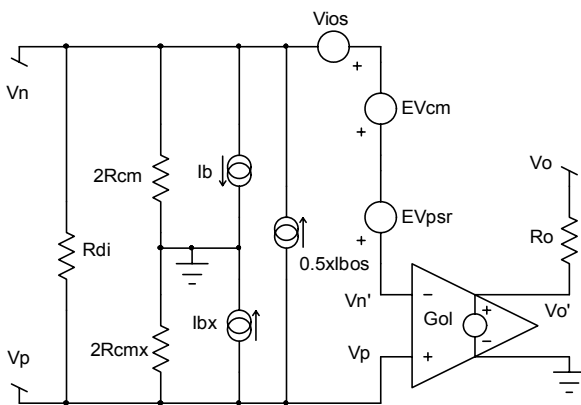

Figure 1
Figure 1 illustrates an Op Amp model used to identify those error parameters specified on data sheets. This model provides a first order approximation (FOA) of how these error parameters may affect application topologies. The "x" on parameters designates assumed equal values.
Definitions: Reference Figure 1
1. **Rdi** is the differential input resistance between positive and negative input terminals. It is typically large enough to neglect in most practical situations; however, its value should always be examined. Data sheets specify input resistance as the resistance seen at one input with the other grounded. This data sheet parameter is Rdi in parallel with 2Rcm in Figure 1 and is essentially Rdi.
Current sources in Figure 1 support these equations.
5. **Vios** (input offset voltage) is an internal IC device voltage error (referenced to the input) that relates output voltage for zero input. IC Op Amps have internal circuits that depend on matched devices. Perfect matching can not be achieved; therefore, a mismatch voltage error term exists as Vios in Figure 1. Note that an applied voltage equal to Vios between Vn, Vp such that the voltage between Vn', Vp is zero, forces the output to zero, neglecting all other error terms.
6. **PSRR**, power supply rejection ratio, is responsible for a voltage error term referenced to the input, which relates changes in output voltage for changes in the IC supply voltages. The error term EVPSR in Figure 1 has a value of  $(PSRR * \Delta \text{supply voltage})$  for PSRRs given in data sheets as  $\mu\text{V/V}$ . PSRR may be given in dB for which EVpsr in Figure 1 is  $(\Delta \text{supply voltage} * 10^{-PSRR/20})$ .
7. **CMRR**, common mode rejection ratio, determines a voltage error term referenced to the input, which relates the output voltage to a common mode voltage ( $V_{cm}$ ) applied to both positive and negative inputs. Figure 1 shows this error term referenced to the input as  $EV_{cm}$ . Equation 3 illustrates how this error term is calculated.
The technique used in calculating impacts of error terms for a given application topology begins by using Figure 1 in a specific application topology and solving for the analytical output voltage ( $V_o$ ) expression using Eqn 4, which neglects  $R_o$ .
The output voltage error caused by an Op Amp's internal mismatch voltage error term Vios is shown in Eqn 6 for the topology of Figure 2, using the Op Amp error model in Figure 1.
Input currents Ip and In on both the positive and negative inputs flow through the DC Thevenin Resistance associated with each input and develop unwanted voltages, which are amplified by the application topology. Eqn 7 shows this error for the topology in Figure 2, using the error model in Figure 1 with Eqns 1, 2.
As previously discussed internal mismatches in the Op Amp cause output errors. Another example of this type error is the term EVcm, which is referenced to the input in Figure 1. The associated output error due to this term is shown in Eqn 8 for the topology in Figure 2.
Another error due to Op Amp internal mismatches is an output voltage change for changes in the power supply voltages. Figure 1 shows this error term referenced to the input as EVpsr. Equation 9 is the output error voltage for an Op Amp PSRR given in data sheets as  $\mu V/V$ .
Table 2 illustrates how error parameters in Figure 1 impact the total output voltage for the difference amplifier in Figure 2.
The above analysis of Figures 1,2 shows;
In calculating the overall gain for this topology, amplifiers  $G1$ ,  $G2$ , are assumed to be near ideal with  $G3$  an ideal unity gain amplifier. Specifically  $R_o$ ,  $R_{di}$ ,  $R_{cm}$ , and error parameters in Figure 1 are neglected. The output stage  $G3$  is typically the difference amplifier of Figure 2.